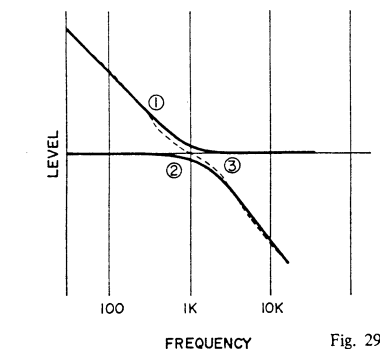

Fig. 29
The pick-up cartridge output signal which is introduced to the PHONO input terminal enters IC101 of the 1/2 Equalizer (turn-over) section. The frequency response of this 1/2 Equalizer is as shown by curve (1) (1 kHz gain 34 dB) of the graph in Fig. 29. The signal amplified at this Equalizer is the less than 15 kHz sum signal (FL+RL) and the 20 to 45 kHz difference signal (FL-RL).
The sum signal passes low pass filter (F101) and is supplied to IC103 of the next stage 2/2 Equalizer (roll-off) section. The frequency response of this 2/2 Equalizer is as shown by curve (2) of the graph shown in Fig. 29.
Accordingly, the frequency response of the sum signal from the 2/2 Equalizer becomes as shown by curve (3) of the graph in Fig. 29 (passes RIAA curve) and flat sum signal frequency response is obtained.